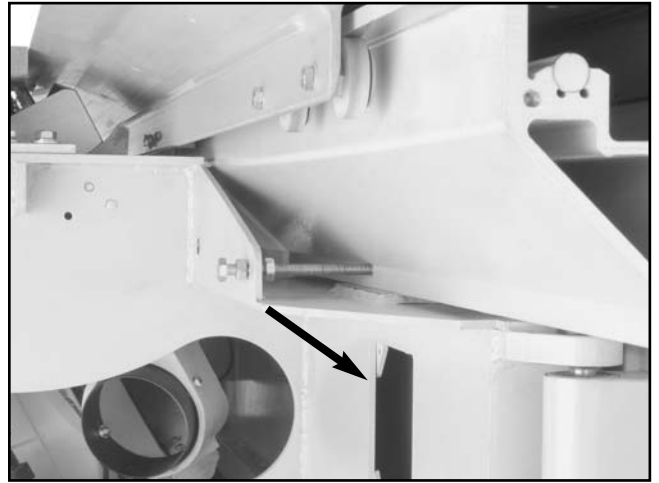

Figure 28. Access panel removed (one side shown).
12. Remove the two access panels from the back of the base unit (**Figure 28**) so that you can access both of the remaining attachment holes.